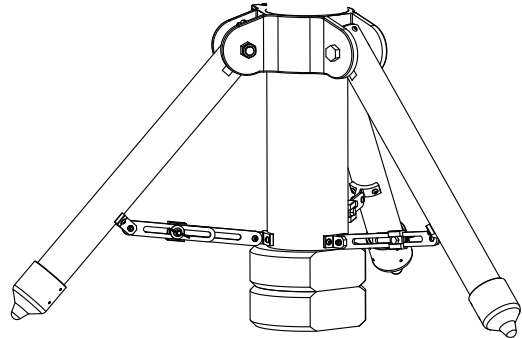

Fig. 1.1b
3. Place one or two counterweight(s) just between the bottom of the central post and the ground if there is enough space between them. This is a critical safety effort because the counter weight(s) will prevent users from accidentally putting their feet under the center pole. (Fig. 1.1b)